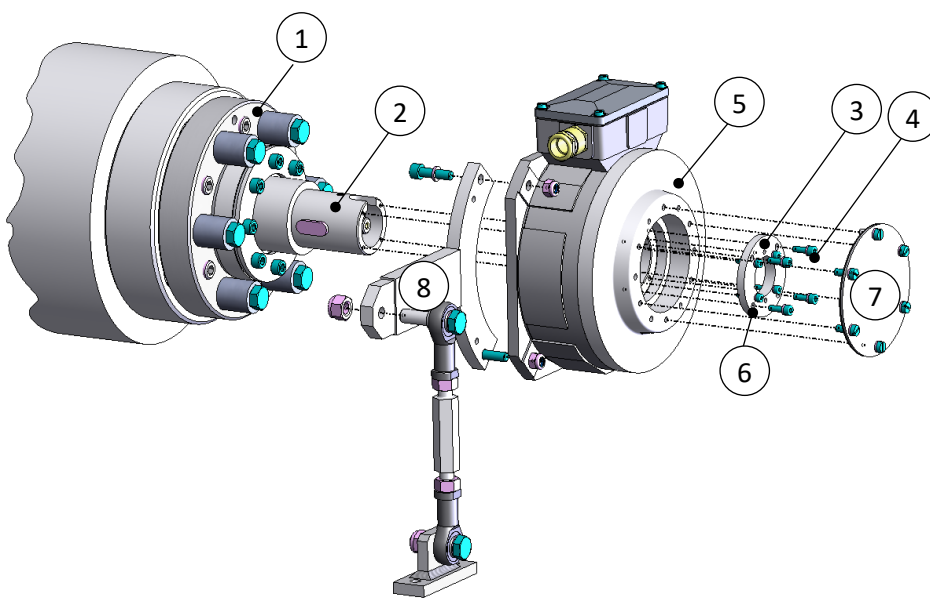
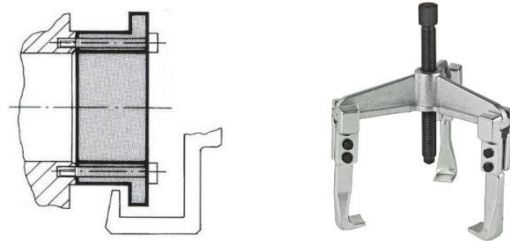

Figure 2
Figure 3
The radial deviation of the shaft (2) Figure 2 page 14 should not exceed 0,05 mm.
- 3 Screw the hollow shaft encoder to the hollow shaft using the axial clamping ring (3) and fastening screws (4) 4x M5 x 16 - DIN 912. Figure 2 page 14).
- 4 Screw the axial clamping ring with fastening screws (6) 4x M4 x 20 - DIN 912 onto the adapter shaft.
- 5 Close the hollow shaft encoder with the cover plate with seal (7).
- 6 Attach the torque bracket/support arm (8) to the hollow shaft encoder.
- 2 The hollow shaft of the hollow shaft encoder has threaded holes on both ends. To dismantle the hollow shaft encoder, the mounting sleeve (Figure 2 page 14) is screwed on there with 4 screws M5x80. The hollow shaft encoder can now be carefully pulled off the adapter shaft using a suitable pulling device (Figure 3 page 17).